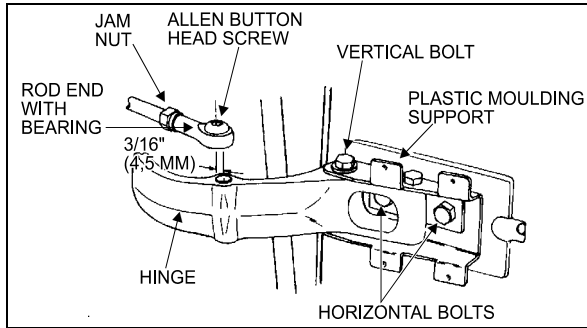

FIGURE 19: UPPER DOOR HINGE (COACH) 18058
2. Remove the Allen button head screw and the washer retaining the rod end with bearing to the upper hinge. See figure 19.
3. Remove the Allen button head screw and the washer retaining the ball and socket rod to the upper hinge. See figure 19.
3. Remove the Allen button head screw and the washer retaining the rod end with bearing to upper hinge. See figure 19.